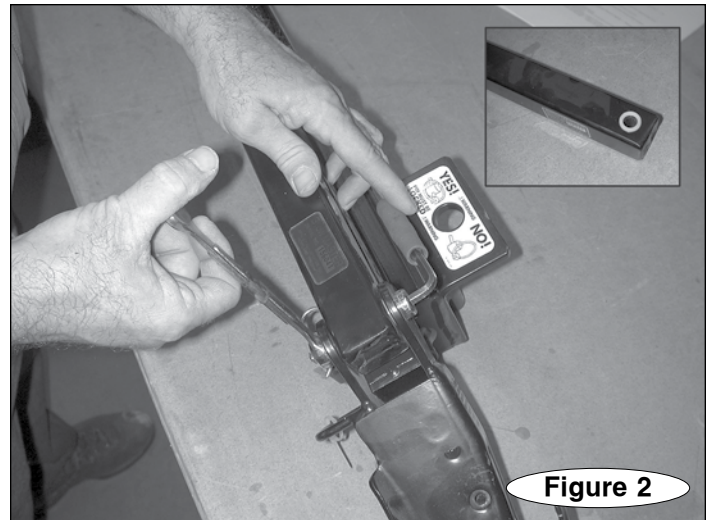

Figure 2
2. Remove the yoke shoulder bolt (Figure 2), position the replacement acetyl washers in the grooves on either side of the tow bar arm (inset, Figure 2) and attach the replacement yoke shoulder bolt and Nylock nut.